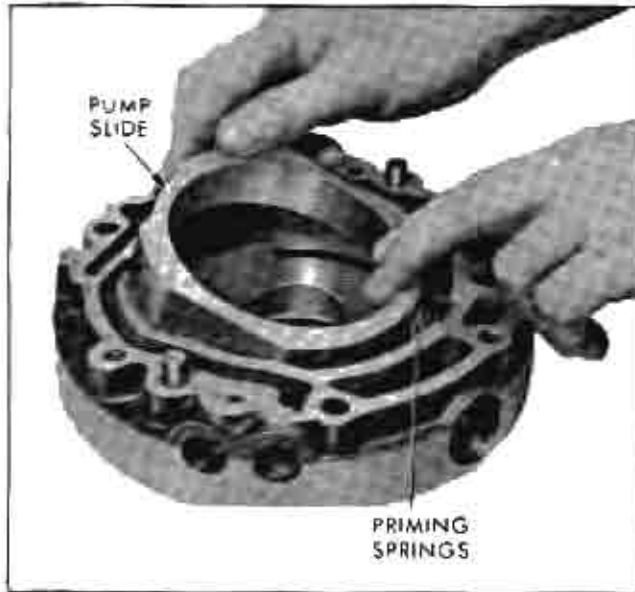

Fig. 112 Installing Front Pump Slide
1. Insert inner and outer priming springs in the recess in pump body (Fig. 112).
2. Position pump slide in pump body toward priming springs. Compress priming springs with slide until it drops into pocket of pump (Fig. 112). Work slide in position. NOTE: Slide can not be improperly installed.